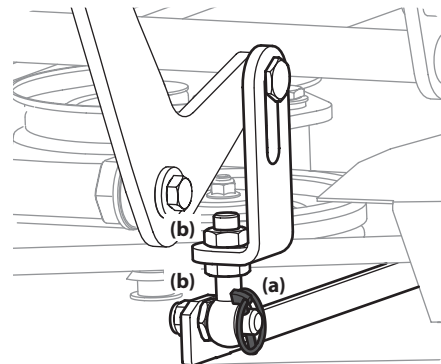

Figure 4-11
- Adjust the eyebolt (a) at the left front of the deck so that the blade-to-ground height at the right outside blade tip matches that of the left outside blade tip. This is done by loosening the jam nuts (b) on the eyebolt (a) and tightening the upper jam nut (b) to raise the deck and loosening the jam nut (b) to lower the deck. The right outer blade tip height is fixed by the right, front eyebolt (a) so you must adjust the left outer tip to match it. See Figure 4-11.
- Loosen the jam nuts (b) at the rear left and right of the deck eyebolts (a). Refer to Figure 4-11.
- Start at the rear right to raise the rear of the deck, tighten the upper jam nut (b) to raise the deck or loosen the upper jam nut (b) to lower the rear of the deck. Refer to Figure 4-11.
- Adjust the jam nut (b) at the rear left to take the "slack" out of the threaded rod. Refer to Figure 4-11.
- Tighten both lower jam nuts (b) to secure the deck adjustment. Refer to Figure 4-11.
7. The final adjustment would be to take the "slack" out of the left rear linkage if the rear of the deck was raised by adjusting the jam nuts (b) on the eyebolt (a). Loosen the jam nuts (b) and tighten the upper jam nut (b) to remove "slack". Refer to Figure 4-11.
8. In many cases it will be necessary to adjust deck height using both eyebolt (a) adjustments and pitch adjustment to achieve the correct blade-to-ground heights. If you remember that the front right blade tip adjustment is fixed and you level to that height, adjusting the decks will be simplified. Refer to Figure 4-11.